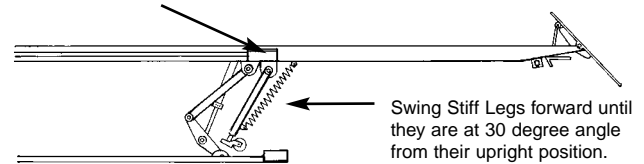

Figure 19
3. Press 'up' button on remote control switch to lift machine until there is no weight on stiff legs. Then swing stiff legs forward until they are at 30 degree angle from their vertical position. (See Figure 19.)